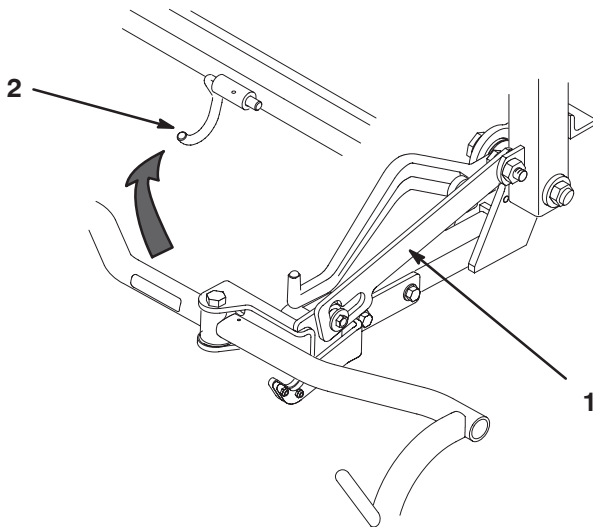

Figure 18
- Lift up on the slotted link and rotate the pull frame into the wire hook (Fig. 18).